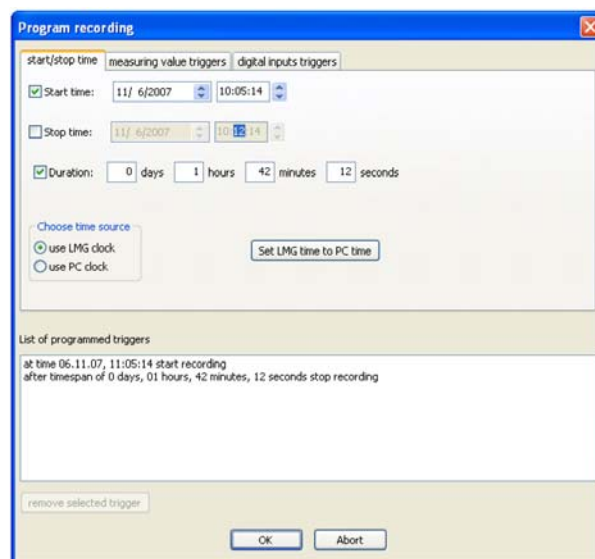

Figure 12: Duration of recording as event
- Duration: As an alternative to defining a stop time you can also specify a duration for the recording (cf. figure 12).